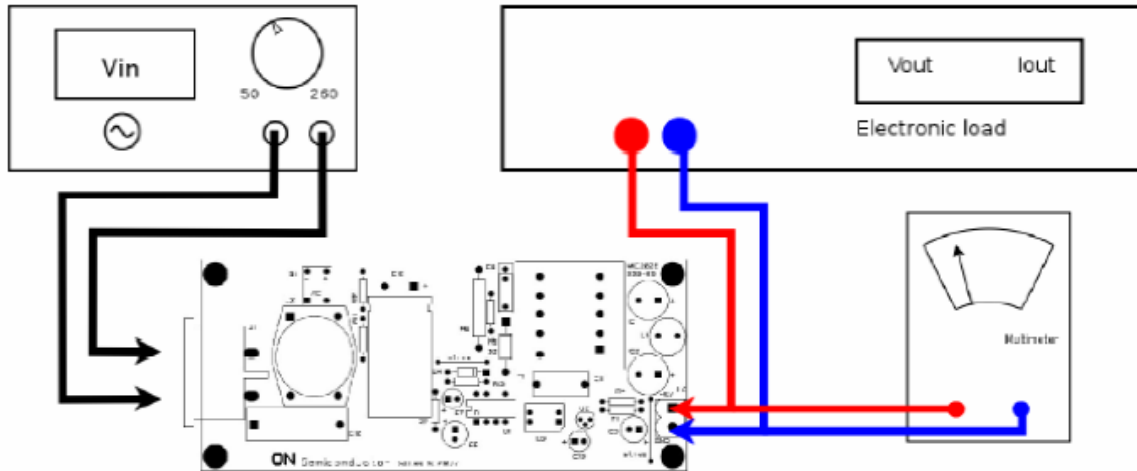

Figure 24. Test Setup
1. Connect the test setup as shown in Figure 24.